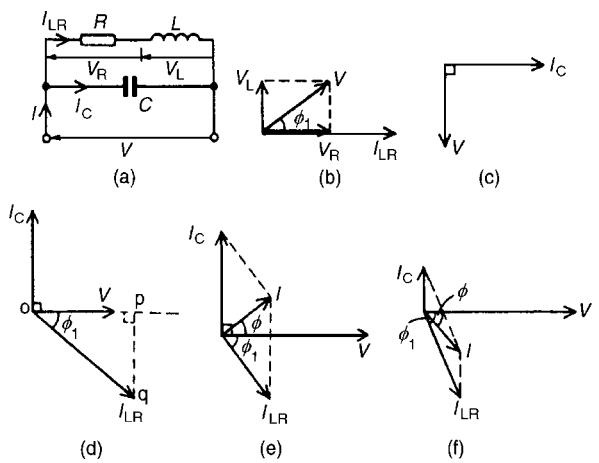

Figure 16.5
In the two branch circuit containing capacitance  $C$  in parallel with inductance  $L$  and resistance  $R$  in series (such as a coil) shown in Fig. 16.5(a), the phasor diagram for the  $LR$  branch alone is shown in Fig. 16.5(b) and the phasor diagram for the  $C$  branch is shown alone in Fig. 16.5(c). Rotating each and superimposing on one another gives the complete phasor diagram shown in Fig. 16.5(d)
The current  $I_{LR}$  of Fig. 16.5(d) may be resolved into horizontal and vertical components. The horizontal component, shown as  $op$  is  $I_{LR} \cos \phi_1$  and the vertical
- $I_C > I_{LR} \sin \phi_1$  (giving a supply current  $I$  leading  $V$  by angle  $\phi$ —as shown in Fig. 16.5(e))
- $I_{LR} \sin \phi > I_C$  (giving  $I$  lagging  $V$  by angle  $\phi$ —as shown in Fig. 16.5(f))
There are two methods of finding the phasor sum of currents  $I_{LR}$  and  $I_C$  in Fig. 16.5(e) and (f). These are: (i) by a scaled phasor diagram, or (ii) by resolving each current into their '**in-phase**' (i.e. horizontal) and '**quadrature**' (i.e. vertical) **components**, as demonstrated in problems 6 and 7. With reference to the phasor diagrams of Fig. 16.5:
**Resonance** occurs in the two branch network containing capacitance  $C$  in parallel with inductance  $L$  and resistance  $R$  in series (see Fig. 16.5(a)) when the quadrature (i.e. vertical) component of current  $I_{LR}$  is equal to  $I_C$ . At this condition the supply current  $I$  is in-phase with the supply voltage  $V$ .